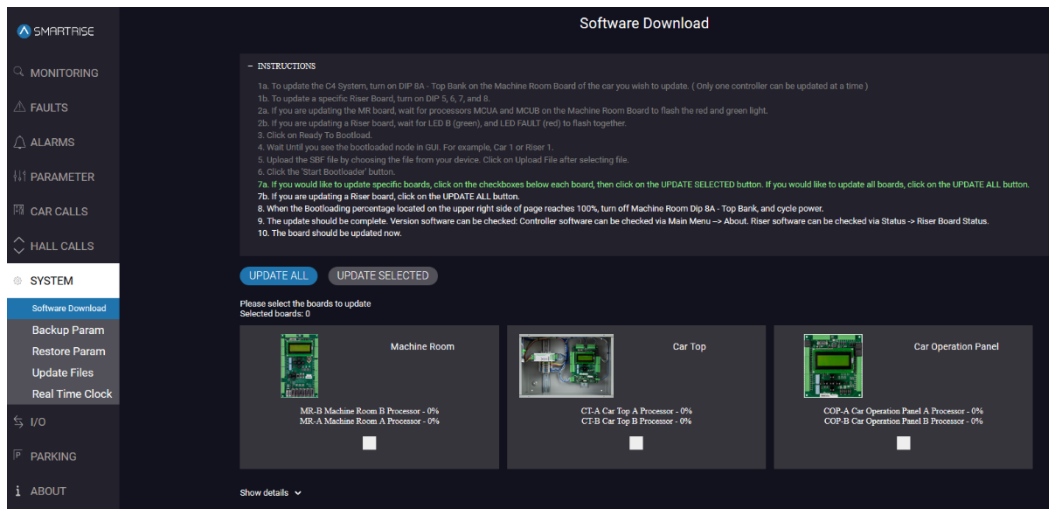

Figure 36: SYSTEM Screen – Software Download – Selected Board
- The process then returns for the user to select the board to be updated. See Figure 36. Wait until the MR LCD displays “READY” before attempting another download. If started too soon, the download process will fail again.